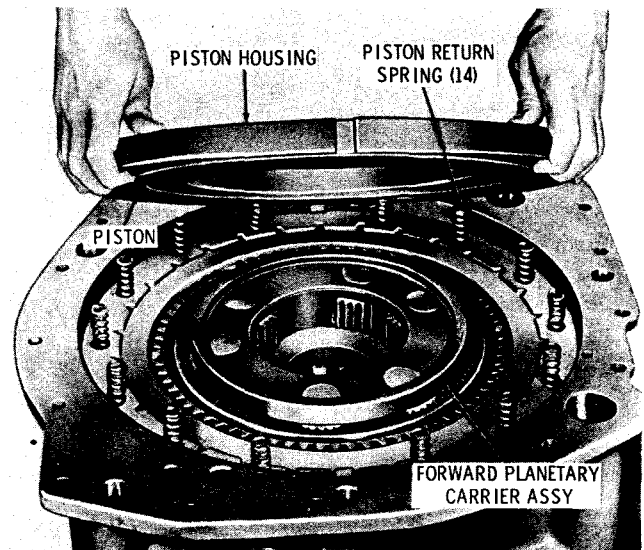
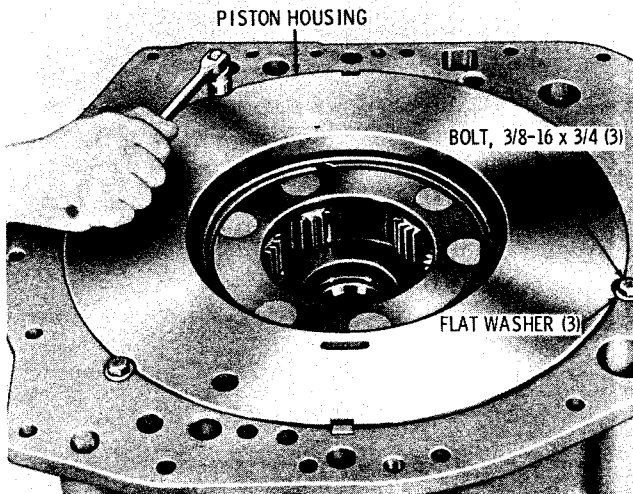

Fig. 7-23. Installing forward clutch piston housing (5630 models)
Fig. 7-24. Installing forward clutch piston housing bolts (5630 models)
(6) Install the forward planetary carrier assembly (fig. 7-23). Install 14 piston return springs.
(7) Install the forward clutch piston, with its sealrings and expanders, narrow flat face outward, into the forward clutch piston housing (fig. 7-23). Install the piston housing, aligning the three milled cutouts at the front edge of the housing with three bolt holes in the transmission housing (fig. 7-24).
(8) Install three 3/8-16x3/4-inch bolts, with flat washers, to retain the piston housing (fig. 7-24). Tighten the bolts evenly to 26 to 32 pound feet torque.